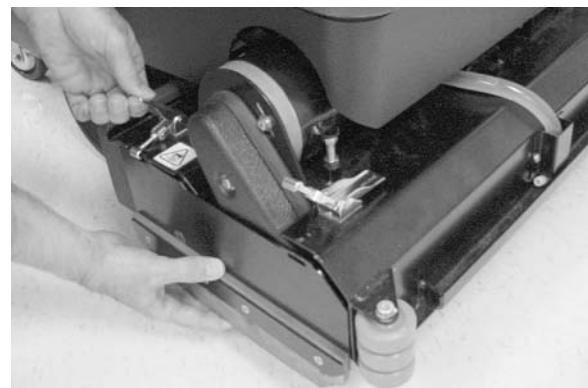

FIG. 7
3. Remove idler plate from scrub head by releasing latches on top of scrub head (Figure 7).